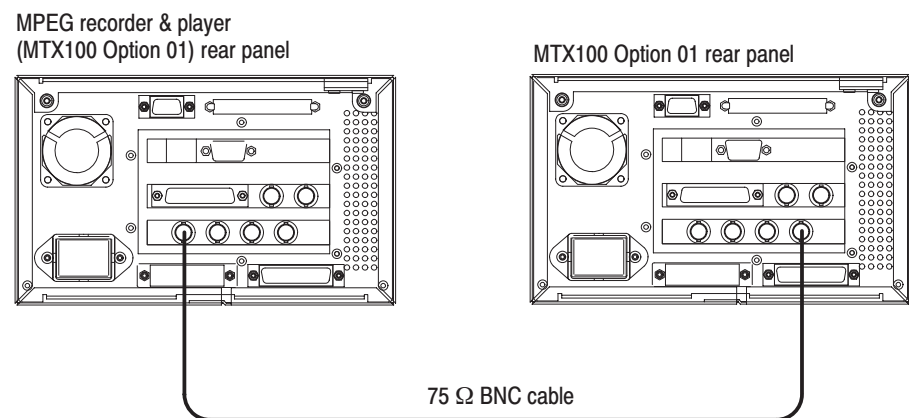

Figure 4-8: Third equipment connection for verifying the ASI interface
27. Use a 75 Ω BNC cable to connect the ASI OUT1 connector on the MPEG recorder & player to the ASI IN connector on the MTX100 Option 01 as shown in Figure 4-8.